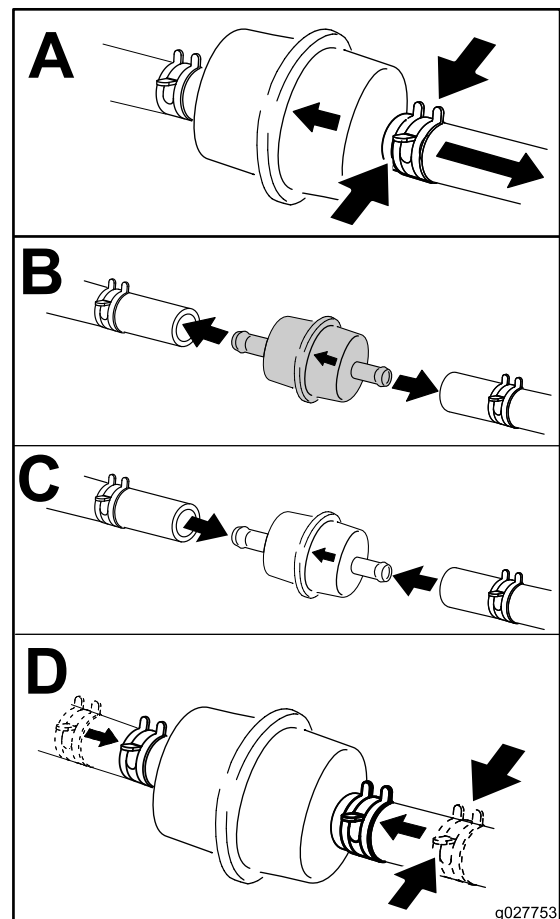

Figure 29
3. Replace the fuel filter as shown in Figure 29.